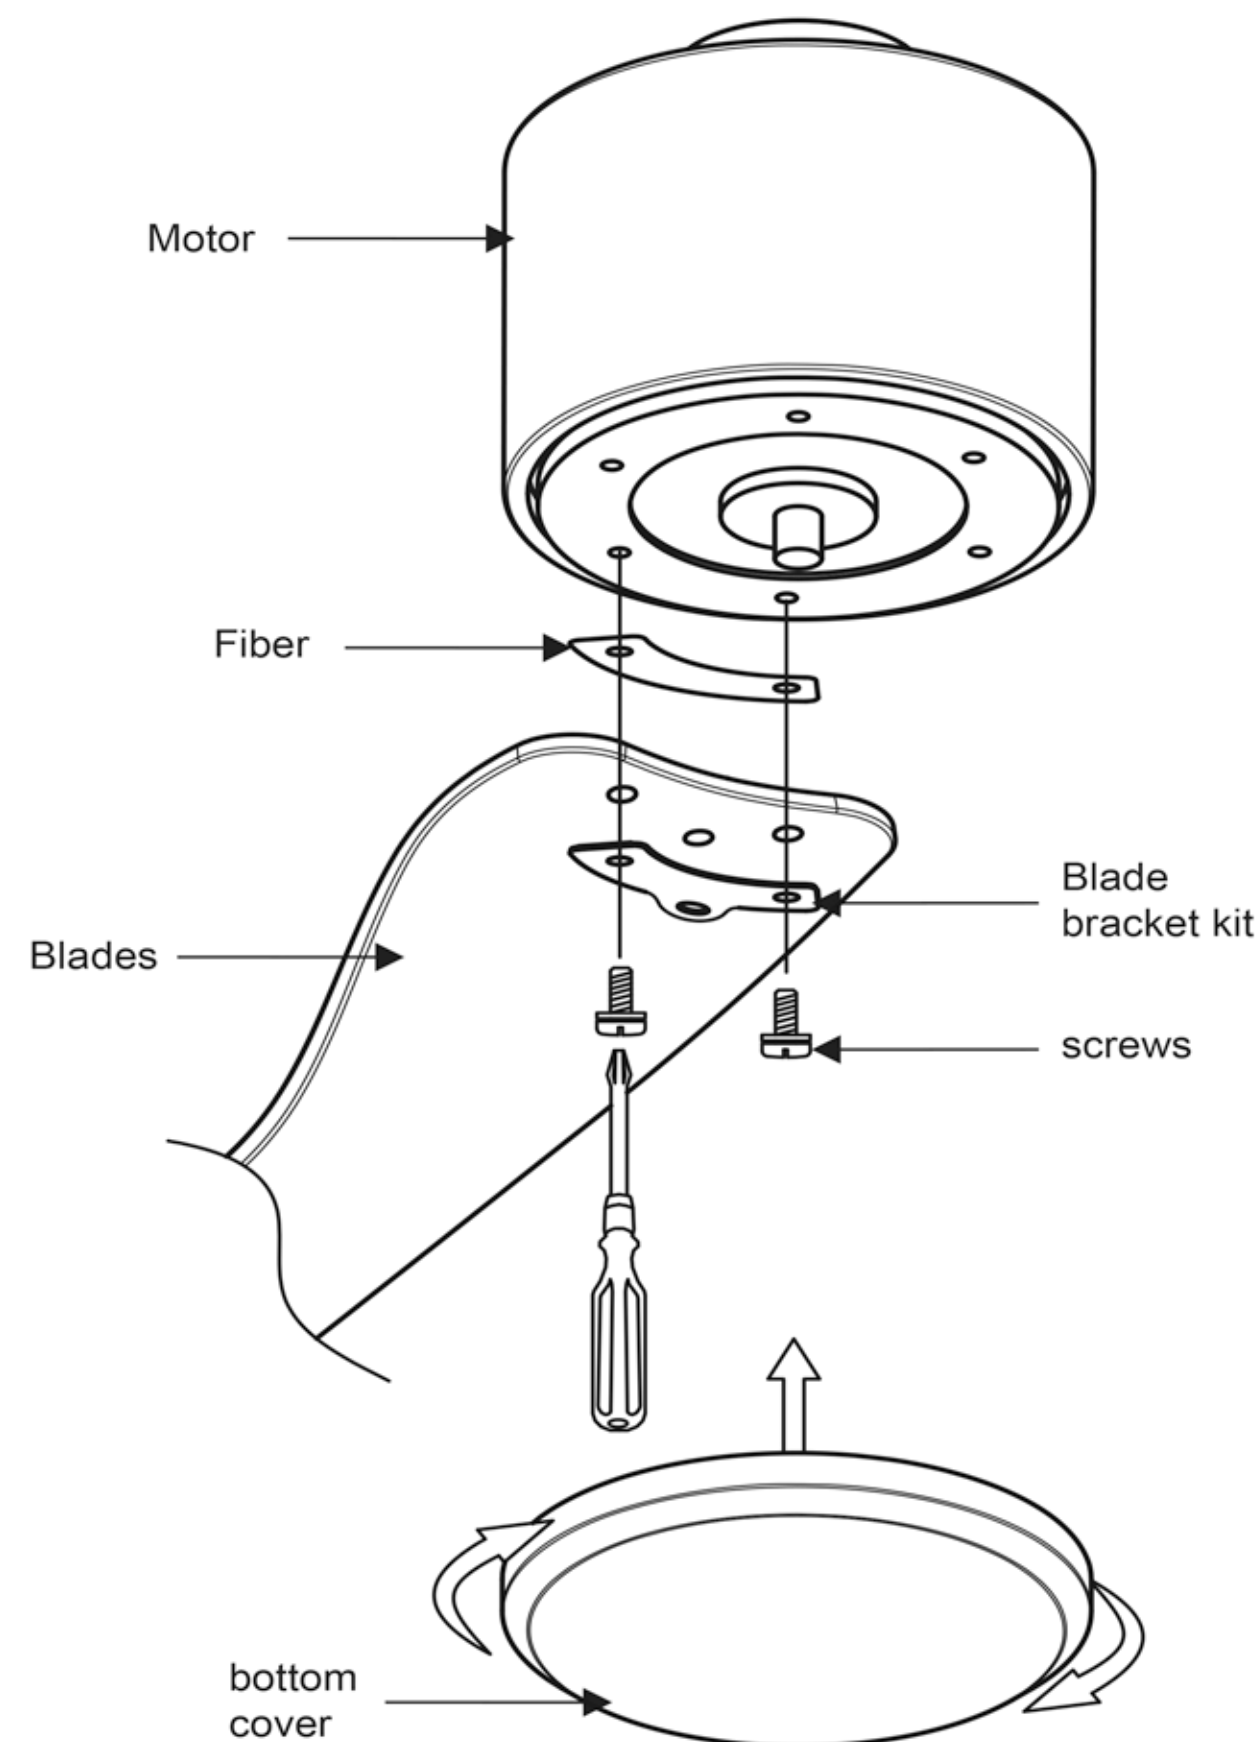

Fig.9
**Step 1.** Insert the blade screws through blade assembly consist of the following order, bracket kit, blade, and fiber. Attach the blade assembly to motor and secure it by tightening the 2 screws. Fig. 9